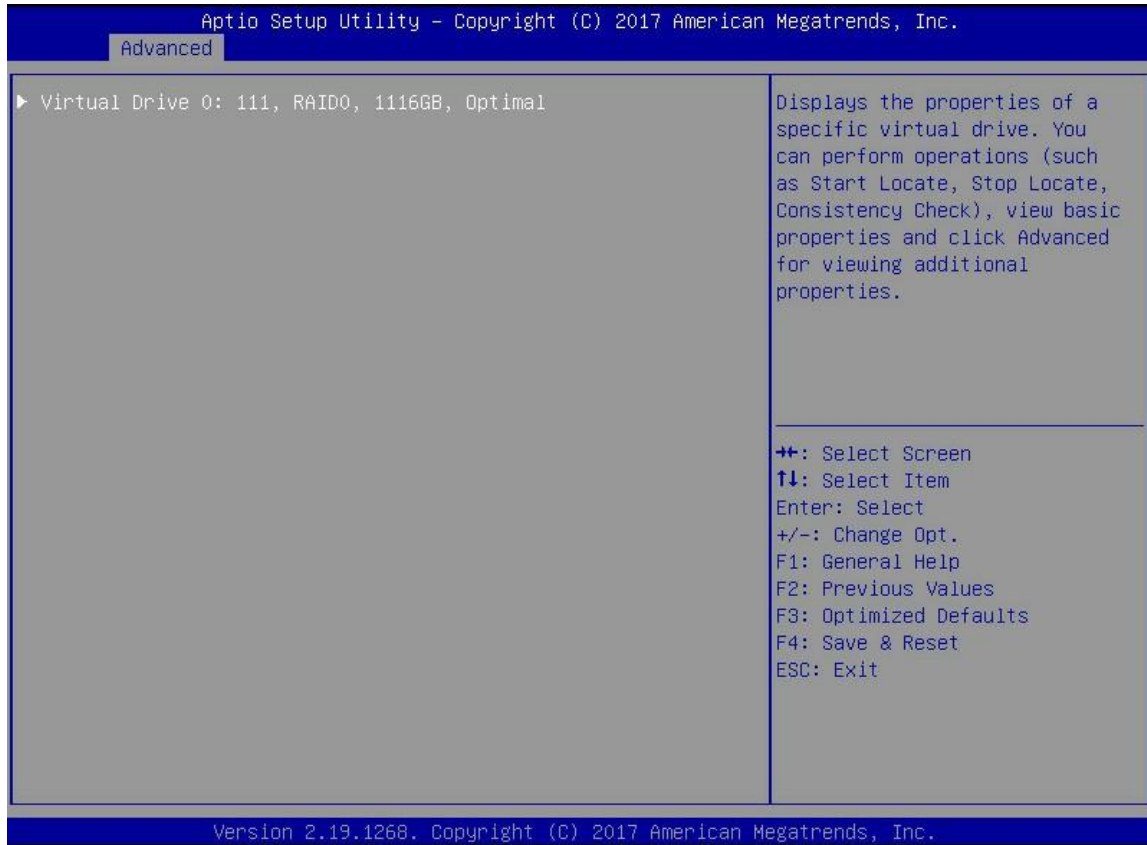

Figure 6-37
b) Enter the interface shown in figure 6-37, select the logical disk to be located and press enter.